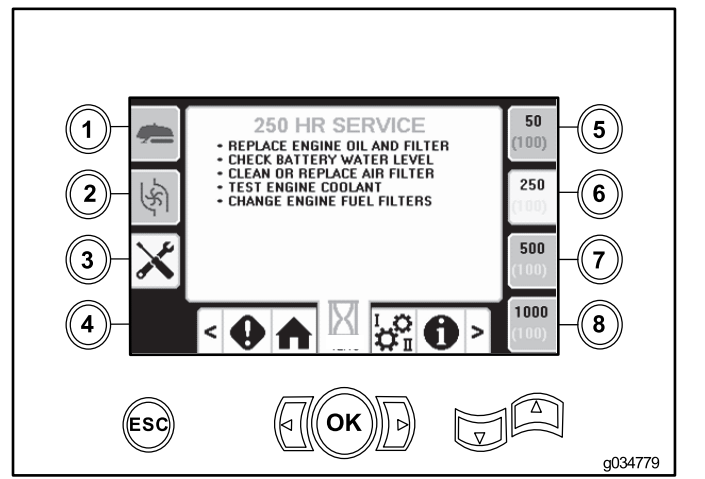

Figure 52
- Button 6—250-hour (Figure 52)